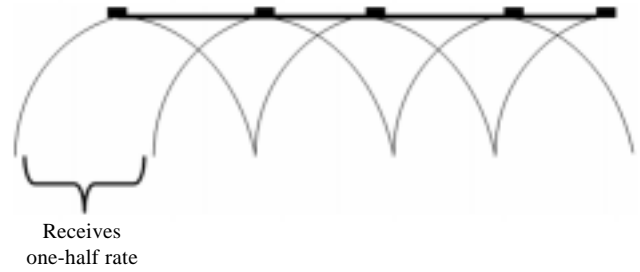

Figure 3. Shows one-half rate of pesticide from end nozzle.
- inconsistent sprayer application. (The outer most sprayer nozzles along the field edge will not apply a full pesticide rate (*Figure 3*) since most nozzles are designed for some pattern overlap. To avoid this, add a nozzle at the end of the boom (*Figure 4*) that can be turned on to give a full rate on field borders.